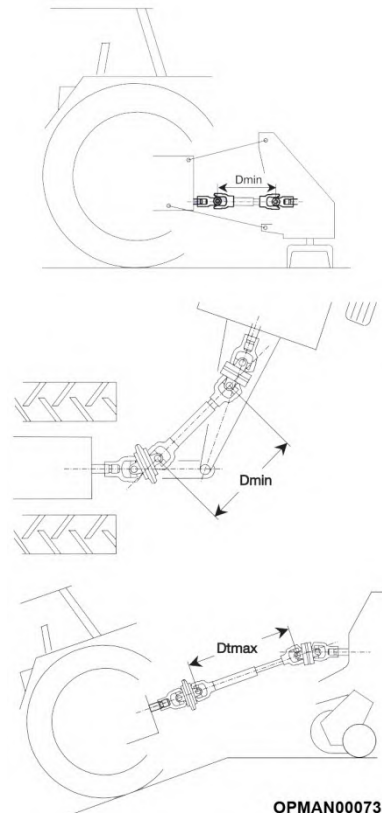

Figure 3.5 – Max/min Input Shaft Overlap
Place the tractor/machine in the position so the two halves of the shafts are at the minimum distance between the two ends; see Figure 3.5. At this point, verify any interference of the outer tube with the yoke inner tube and establish how much the outer tube needs to be shortened.
On trailed machines, the minimum distance "Dmin" (see Figure 3.5), occurs between the joints during steering. Verify that in the condition of maximum extension "Dmax", which generally occurs when the machine is aligned going slowly downslope, the coupling between the two tubes is still sufficient.
- 3.3.3.1 With the input PTO shaft attached, place the tractor and machine in the tightest corner possible, Dmax (see Figure 3.5).
3.3.4.6 Check the length of the driveshaft at the minimum and maximum positions of the machine. See Figure 3.5 for guidance on Dmin/Dmax lengths.